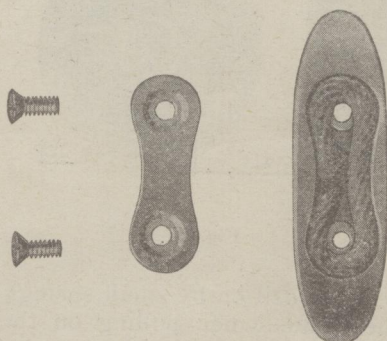

Fig. 21
3. Obtain new cord. Attach grip as shown Fig. 21. Use only the special cable provided by the manufacturer.